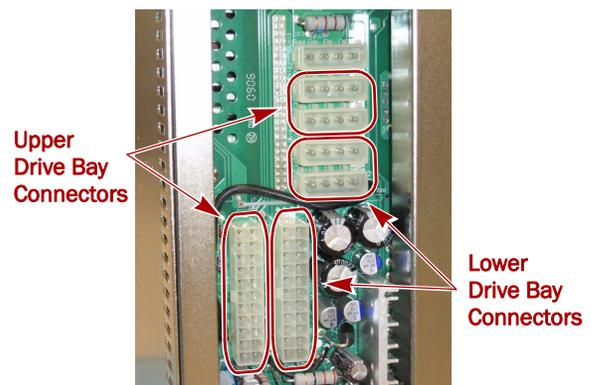

Figure 4. Receiver Rear Connectors
2. Connect the **receiver wiring** inside (Figure 4):